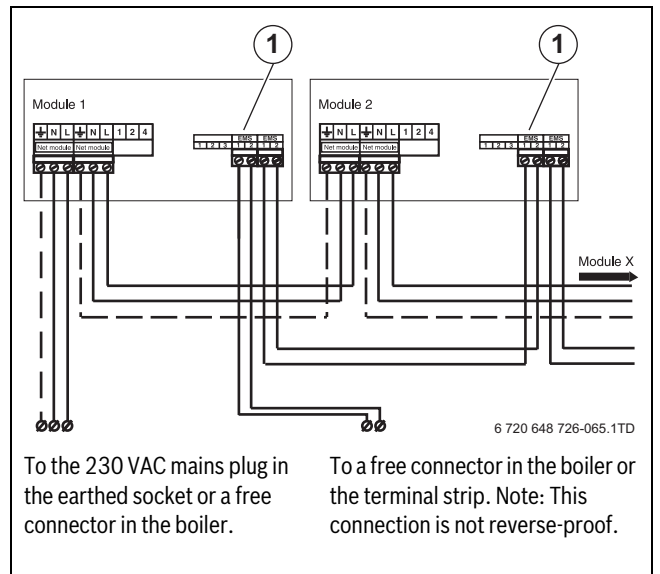

Fig. 65 Connecting several modules
- ▶ If more modules are used, the EMS bus connection for the second module may be branched off from the first module using the cable enclosed with the module (→ fig. 65 and 66).
- ▶ Connect the wire from terminal 1 to terminal 1 and from terminal 2 to terminal 2 (→ fig. 65 and 66).
- ▶ Connect the other end of the EMS bus connection cable to the first module (→ fig. 65).
i The module may have the letters RC or EMS above the connection (→ fig. 65, [1]).
- ▶ Connect the EMS bus connection lead of the first module to the next module (→ fig. 65).
- ▶ Connect the 230 VAC mains cable to the module (→ fig. 65). If more modules are used, the 230 VAC supply to the next module can be branched off from the previous module using the connector enclosed with the module and a 3-core 0.75-mm² current cable with an earthing wire.
- ▶ Connect the 230 VAC supply cable of the previous module to the next module (→ fig. 65).